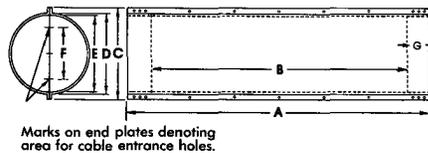

Figure 2 — PREFORMED Splice Case Dimensional Charts
3.01 Use the following charts to select proper size case for splice bundle diameter, cable opening, and end plate cable capacity. (Fig. 2)
1. Refer to cable opening chart (Figure 2) for maximum cable opening.